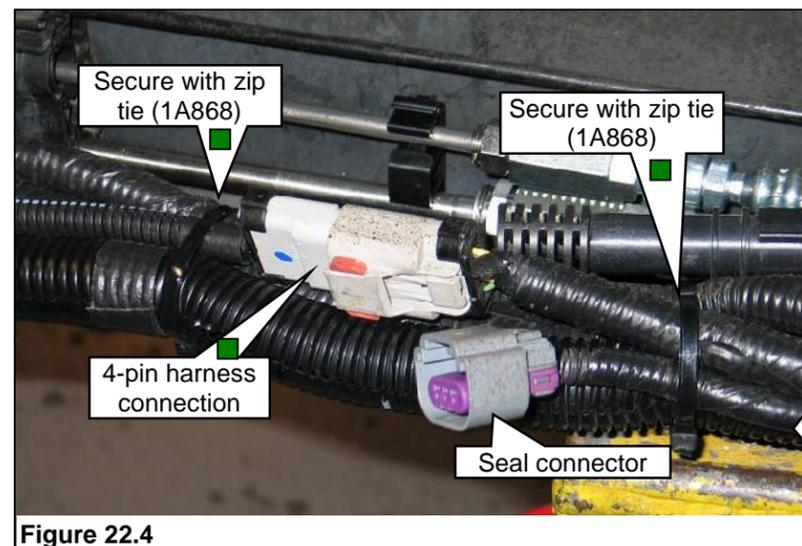

Figure 22.4
3. The rear frame harness includes a connector lead for a fuel temperature pressure transducer (FTPT). This lead is not used on F-450/F-550 Liquid Propane Autogas vehicles and requires connector end be sealed and secured. **Figure 22.4.**